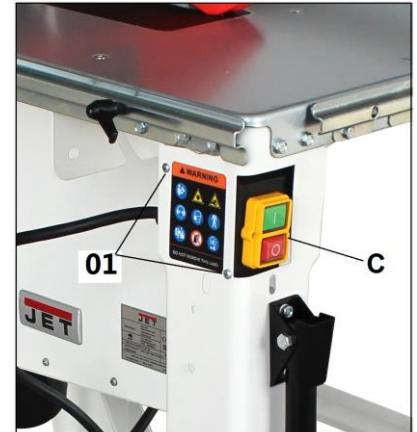

Fig 7
Insert the switch/plug block (C) into the opening in the leg and secure tightly from the side with 2 screw (01). Fig. 7.